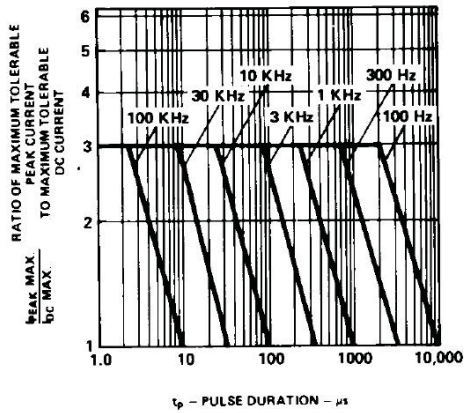

Figure 2. Maximum tolerable peak current vs. pulse duration. ( $I_{DC\ MAX}$  as per MAX ratings).
- See Figure 2 to establish pulsed operating conditions.